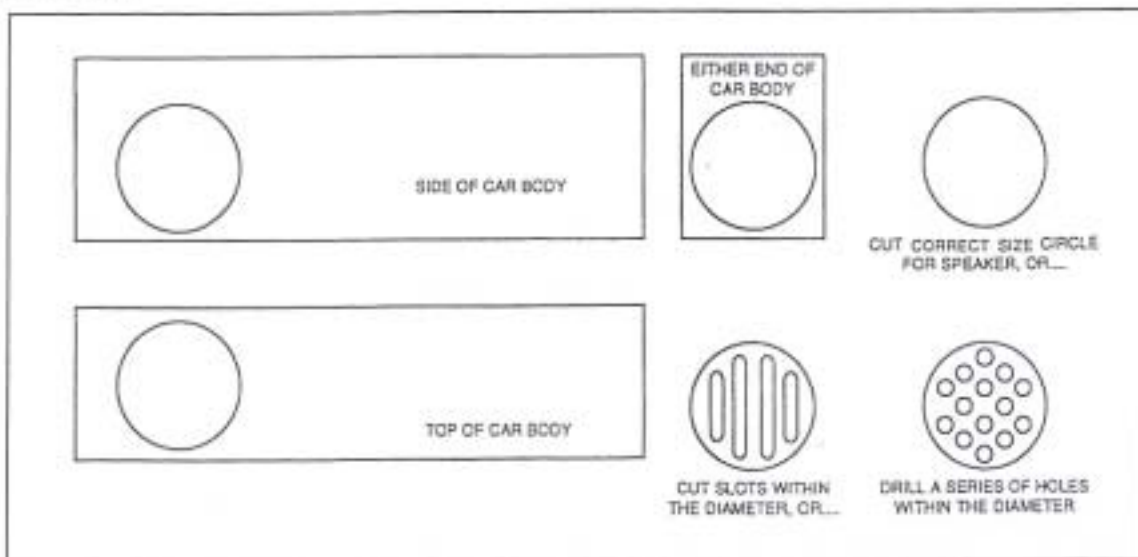

Figure 9: Alternate On-Board Speaker Mounting Suggestions.
**1" Diameter On-Board Speaker:** Sound must be able to project outward from the cone of the On-Board Speaker, so it must be mounted over an opening of some sort. With the On-Board Speaker mounted nearby, sound can be heard from a train car's open windows or doors, through wooden slats or through roof hatches. If these or similar openings are not available, you will have to create an opening in your train car. You can cut a single hole, you can drill a series of smaller holes, or you can cut slots. Whatever your preference, sound from the On-Board Speaker must be able to exit the car. Refer to Figure 9 below.